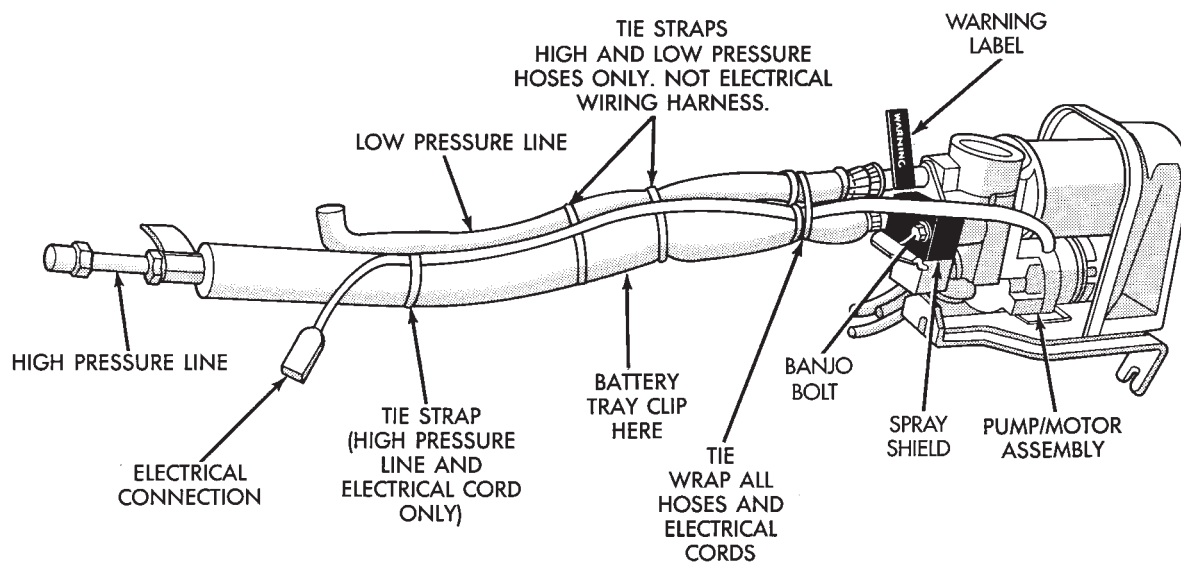

Fig. 6 Positioning Tie Straps On High And Low Pressure Hose Assembly
BRAKE FLUID PRESSURE AND RETURN HOSES (FIG. 6)
(1) Remove the pump/motor assembly from its mounting bracket, see Pump/Motor Service.
(2) Cut the 4 tie straps that secure the high and low pressure hoses and pump/motor assembly wiring harness together Fig. 6.
(3) Remove the banjo bolt and spray shield from the pump/motor assembly Fig. 6.
(4) Remove the high and low pressure hose assembly from the pump/motor assembly Fig. 6.
(2) Position the high and low pressure hose assembly and spray shield on the pump/motor assembly (Fig. 6). Then install the banjo bolt and torque to 14 N•m (120 in. lbs.).
(3) Carefully route pump/motor assembly wiring harness along the side of the high and low pressure hose assembly (Fig. 6).
(4) Install the 4 tie straps around the hose assembly and wiring harness per the sequence and locations shown in (Fig. 6).
(5) Install the pump/motor assembly back on mounting bracket, See Pump/Motor Service.
(6) Turn the ignition switch to the RUN position. This will turn on the pump/motor assembly to charge the high pressure system.
(7) Pump the brake system down as detailed in De-pressurizing Hydraulic Accumulator in this section of the service manual.
(8) Fill the hydraulic assembly to the proper level with Mopar® brake fluid or an equivalent meeting DOT 3 specifications. See Master Cylinder Fluid Level in the Service Adjustments section of this group.